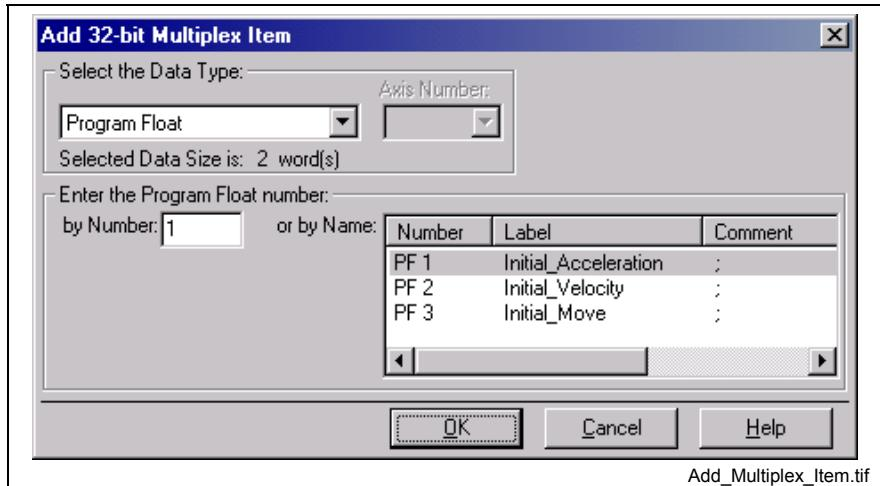

Fig. 7-141: Adding a Multiplex Item to the Container (32-bit example)
3. To add to the selected multiplex container, click **No**. The window in Fig. 7-141 below is an example for adding a 32-bit multiplex item.